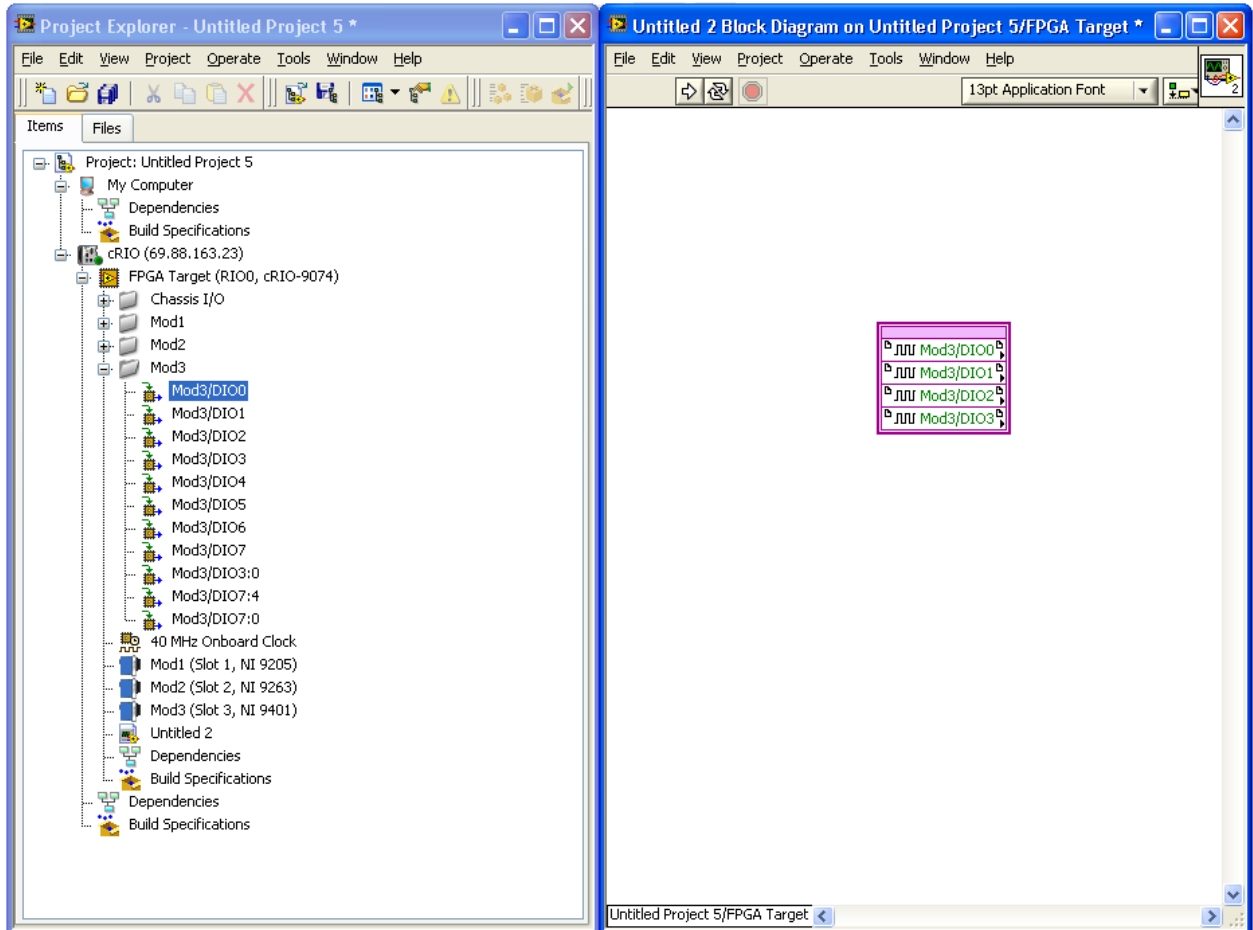

Figure A8 - Drop Mod3 node to Block Diagram
a. Drop and drag Mod3/DIO0 to Block Diagram (as shown in Figure A8)